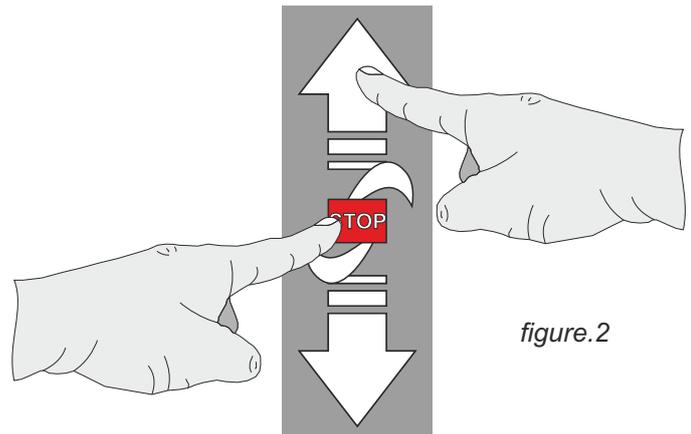
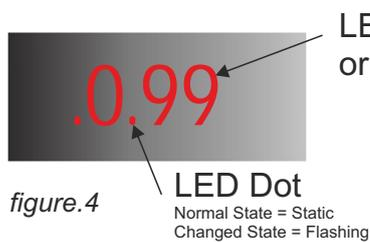

figure.2
figure.4
2. Press and hold the up arrow and stop button together for 3 seconds (figure.2)
Note: to enter a parameter scroll using the arrow keys until the LCD display show the number you require (figure.3) using the command buttons (figure.2). when the display shows the parameter number required in the first column of the table below, press the STOP button for one second. You are now in that selected parameter, should you wish to leave this parameter or discard any changes simply press the STOP button again for 1 second ONLY!!. To make any adjustments in the selected parameter simply use the arrow keys (figure.2) up or down, when the appropriate value is selected you should press and hold the STOP button until the flashing dots between the value cease to flash (see figure.4). The value you selected has now been saved to memory.